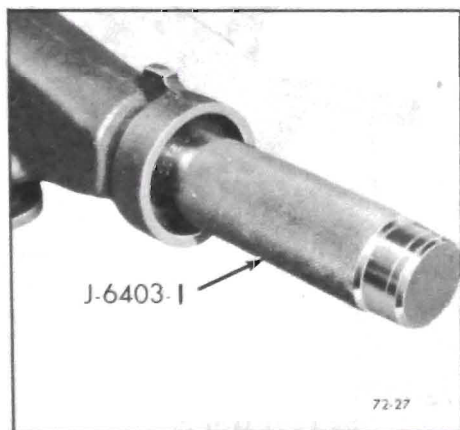

Figure 72-27 - Installing Rear Bearing Retainer Bushing
1. Install rear bearing retainer bushing, using Tool J-6403-1. See Figure 72-27.